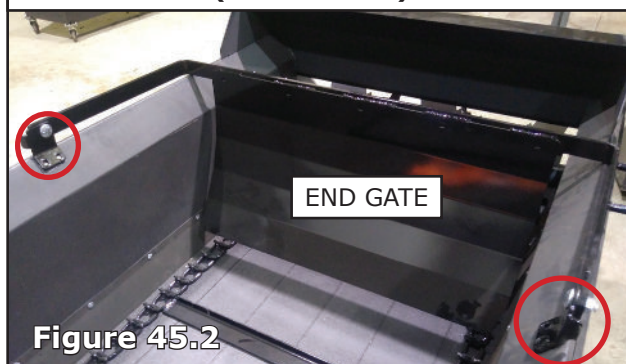

Figure 45.2
1. Using a punch and hammer, remove the two square punch-outs on each side of the spreader by sliding the tip of screwdriver into the slits of the punch-outs and pry out the punch-outs. These punch-outs are located along the top edge of the box of the spreader. **(Figure 45.2)**.
3. Lay End Gate on spreader and line the holes in the brackets of the End Gate with the punched out holes on the spreader (this may require 2 people) **(Figure 45.2)**.
4. Insert the bolts from the top side and then install the lockwashers and nuts from underneath. Once you have all 4 bolts in place, tighten down the nuts using a 9/16" wrench (or socket set) **(Figure 45.2)**.
REMOVE (2) PUNCH-OUTS WITH PUNCH AND HAMMER; INSERT THE BOLTS FROM THE TOP SIDE AND INSTALL THE LOCKWASHERS AND NUTS FROM UNDERNEATH; ONCE TIGHTENED RAISE THE END GATE TO RE-ATTACH LEFT CHAIN GUARD. **(FIGURE 45.2)**.